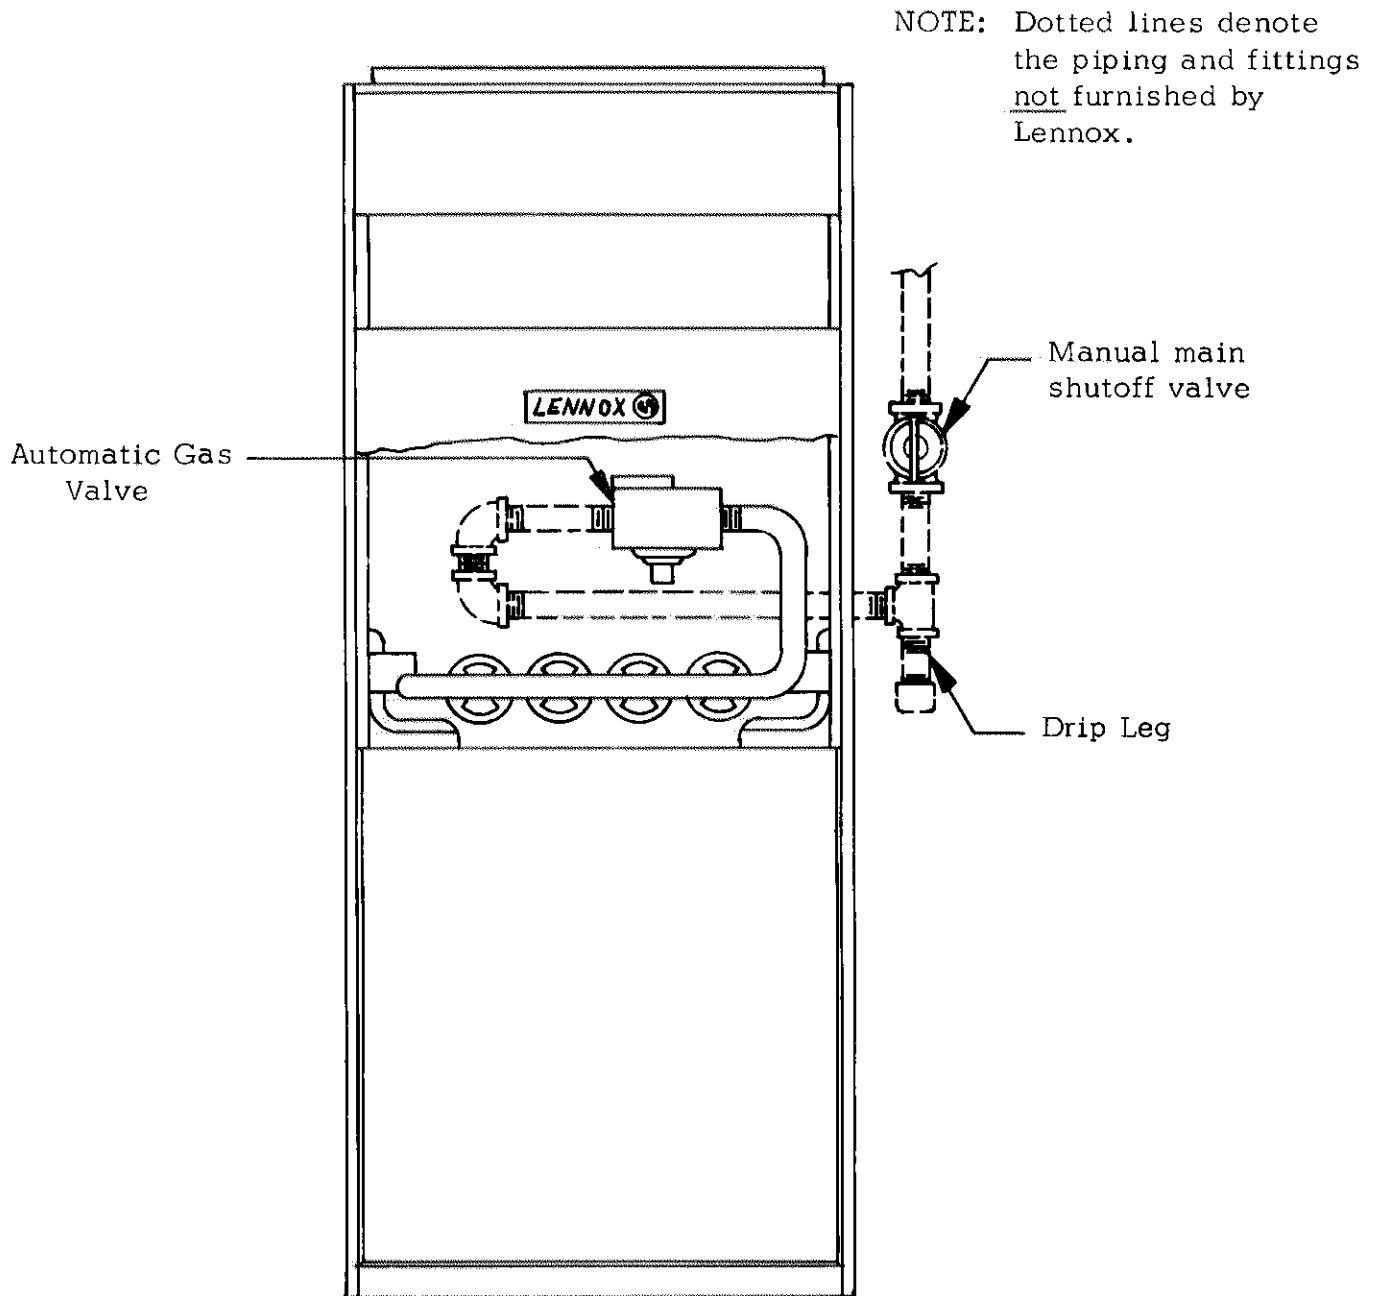

FIGURE 15
- 1 - A piping hole is furnished in right side of unit. See Figure 15 for a suggested routing of piping.
A drip leg must be installed in any vertical section of the pipe line. See Figure 15.